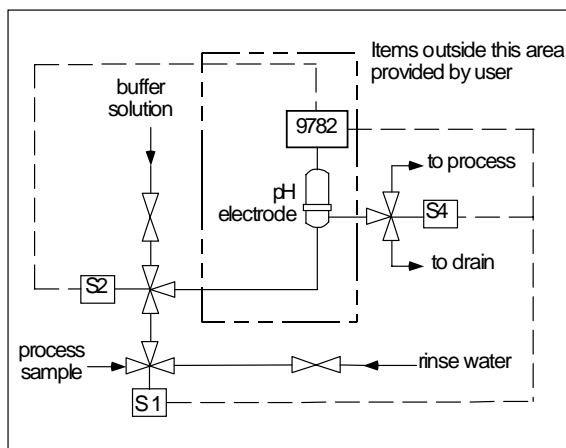
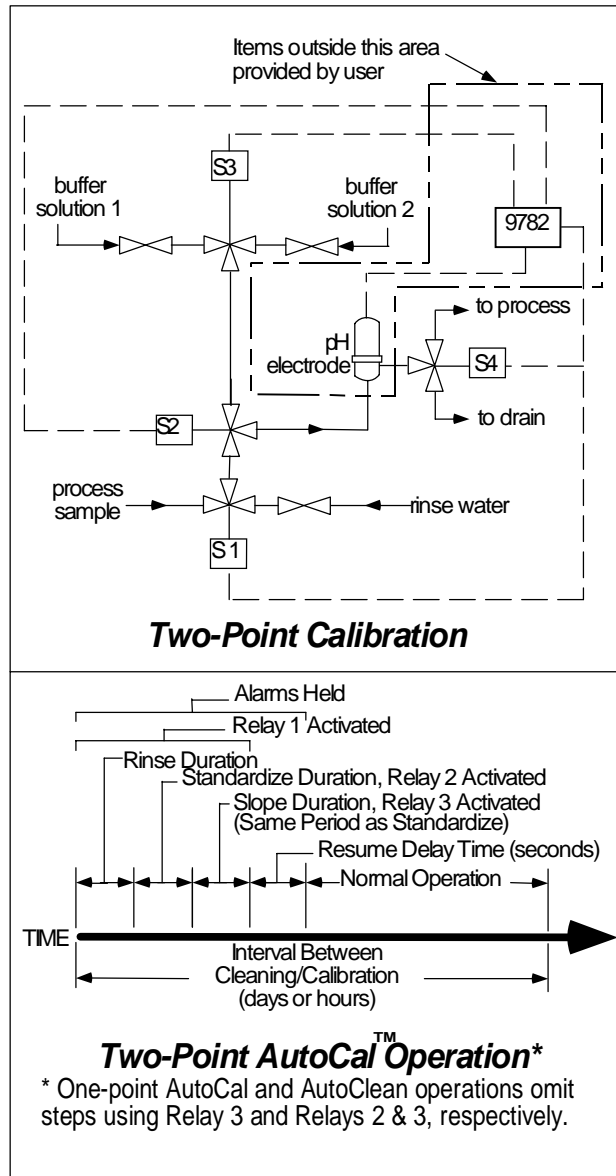

Figure 15-12 Rinse and One-Point Calibration
Figure 15-13 Two-Point AutoCal Operation
- 2 In preparation for the calibration, Relay 1 activates 3-way solenoid valve S1 (see Figure 15-12) to direct rinsing fluid to the electrodes for the configured rinse duration (1 to 1999 seconds). If the measured sample is normally returned to the process but quantities of rinsing fluid cannot be tolerated there, use an additional 3-way solenoid valve S4. It is activated simultaneously with S1 to
Make the process connections as shown in Figure 15-12 or Figure 15-13. Materials and components should be carefully selected for chemical resistance to process and buffer solutions at anticipated temperatures. Be sure that valves and fittings have sufficient pressure ratings to withstand pressure peaks which will occur when process flow is blocked.